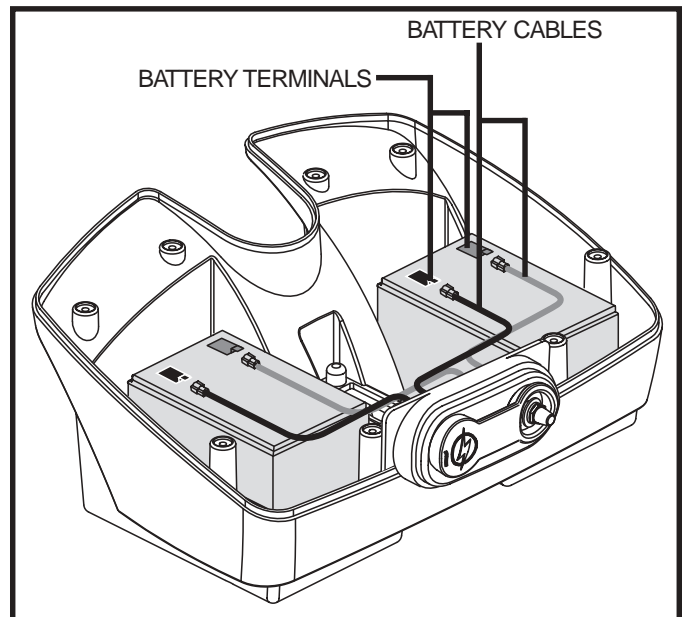

Figure 16. Battery Replacement (12 AH Pack Shown)
3. Remove the eight (8) screws from the perimeter of the battery pack.
5. Disconnect the black (-) and red (+) battery cables from the battery terminals. **See figure 16.**